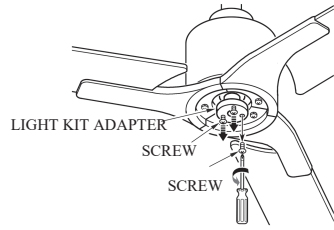

FIG.17
1. Remove 1 of 3 screws on light kit adapter, and loosen the other 2 screws. (See Fig.17)